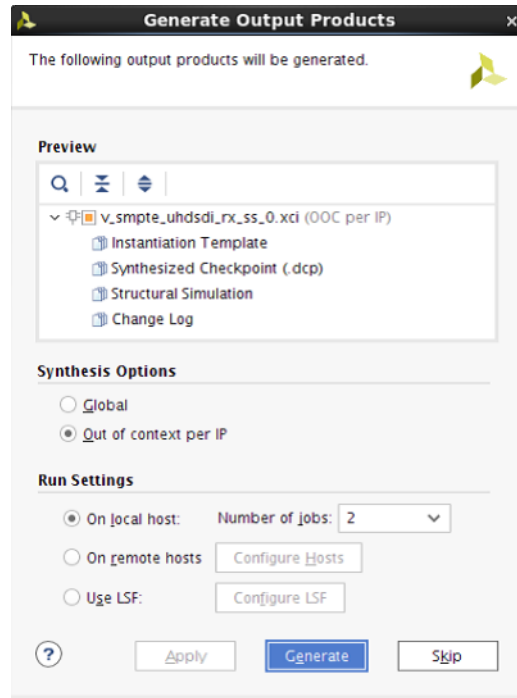

Figure 5-27: Generate Output Products
- Click **Generate** (See Figure 5-27).